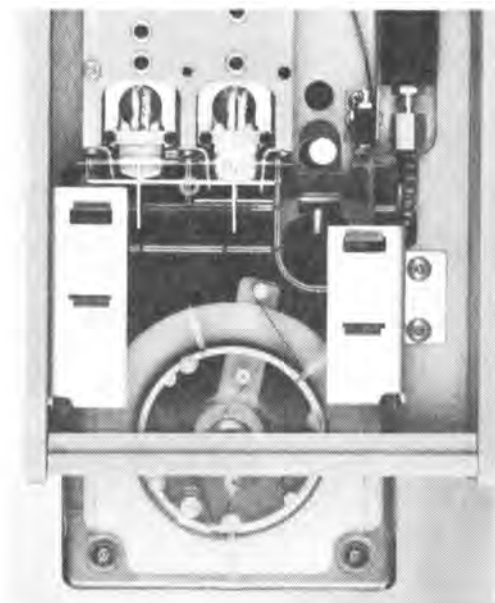

Fig. 3-12
4. The right-hand cartridge guide is snug and square against the cartridge body right-hand side. See Figure 3-12.